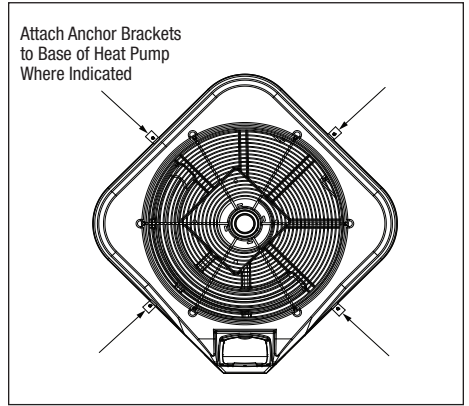

Figure 2. Anchor Clamp Positions
2. Place the clamps at the base of the heat pump in the locations indicated in *Figure 2*.